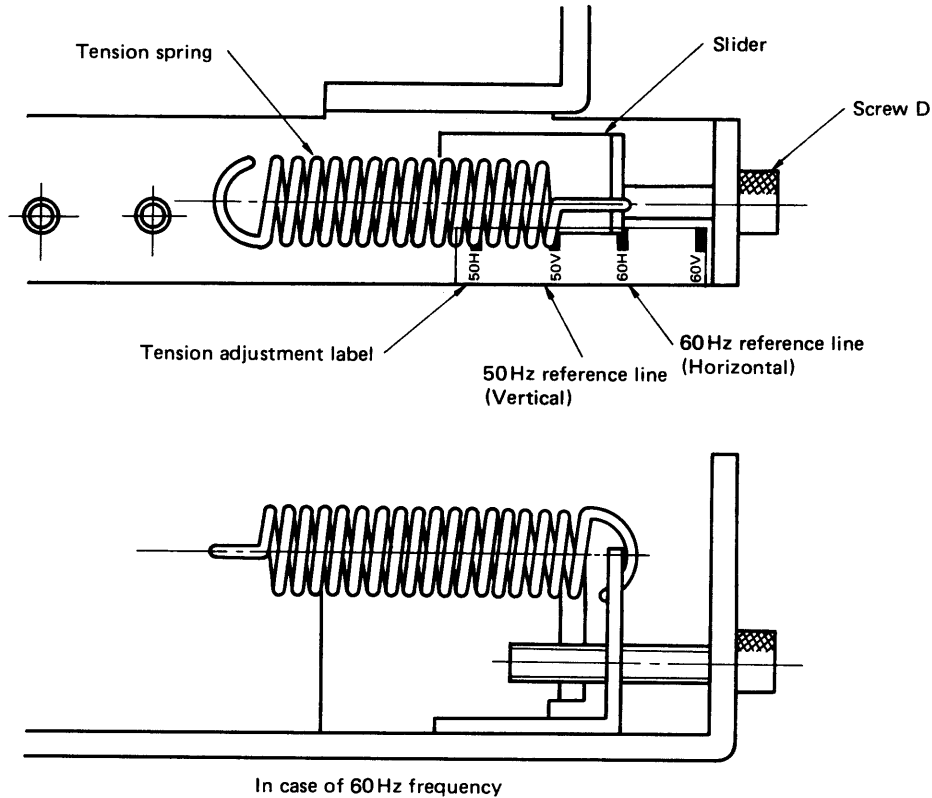

Figure 6-5-5 Belt Tension Adjustment
Tension adjustment label is located beside the side of the slider (see Fig. 6-5-5). Adjust belt tension with screw "D" so that the rear edge of the slider is aligned to proper reference line of tension adjustment label.
- (1) Position the belt, and adjust belt tension. Adjust belt tension with screw "D" so that the rear of slider is aligned to the correct line on the tension adjustment label as shown in Fig. 6-5-5.
- (2) Unlock spindle (see para. 3.4.3).
- (3) Adjust spindle grounding in accordance with para. 6.5.5.
- (4) Install motor cover and spindle cover.